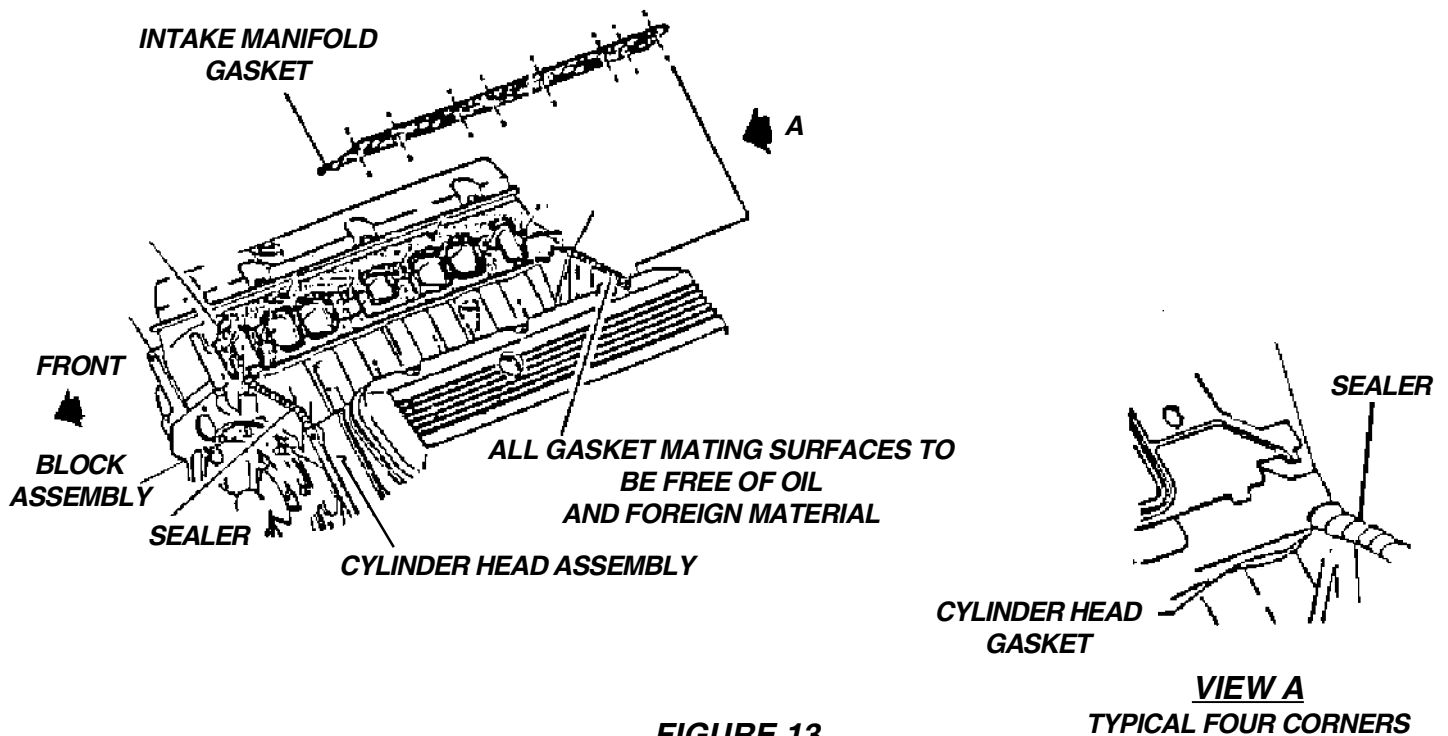

FIGURE 13
1. Place the intake gaskets with the part number side facing up on the cylinder heads. The three cutouts for the oil shield will be on the bottom of the gasket. Verify that the gaskets do not obstruct the port openings of the cylinder heads. No trimming should be necessary on the gaskets. However, if some trimming is necessary mark the parts of the gaskets that need trimming. Remove the gaskets from the heads. Trim the gaskets with an utility knife. Place the gaskets on the intake manifold with the part number side facing the manifold. Verify that the gaskets do not obstruct the port openings of the manifold. If necessary, trim the gaskets with an utility knife. Install the gaskets on the heads with the part number side facing up. Slide the oil shield forwards or backwards to ensure that the cutouts in the gaskets fit around the tabs on the oil shield. See Figure 13.
2. Do not use end seals across the end seal surface of the engine block. Instead apply a 3/8" bead of RTV sealer. Overlap the four corners of the intake gaskets with the sealer. See View A in Figure 13.